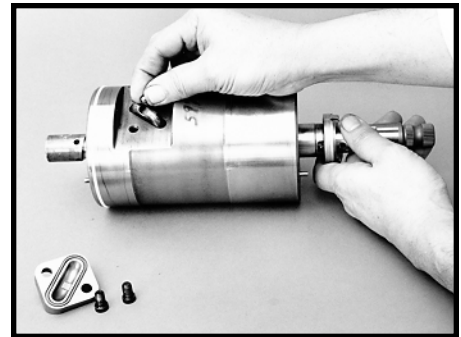

Figure 109
7. Assemble 34 balls (43) into the ball return guides (44) and rack piston (29). Drop the balls through the hole provided in the ball return guides. As you drop the balls, rotate the worm shaft/input shaft (16) to pull the balls down into the grooves. SEE FIGURE 109. Read warning, then go to step 10.